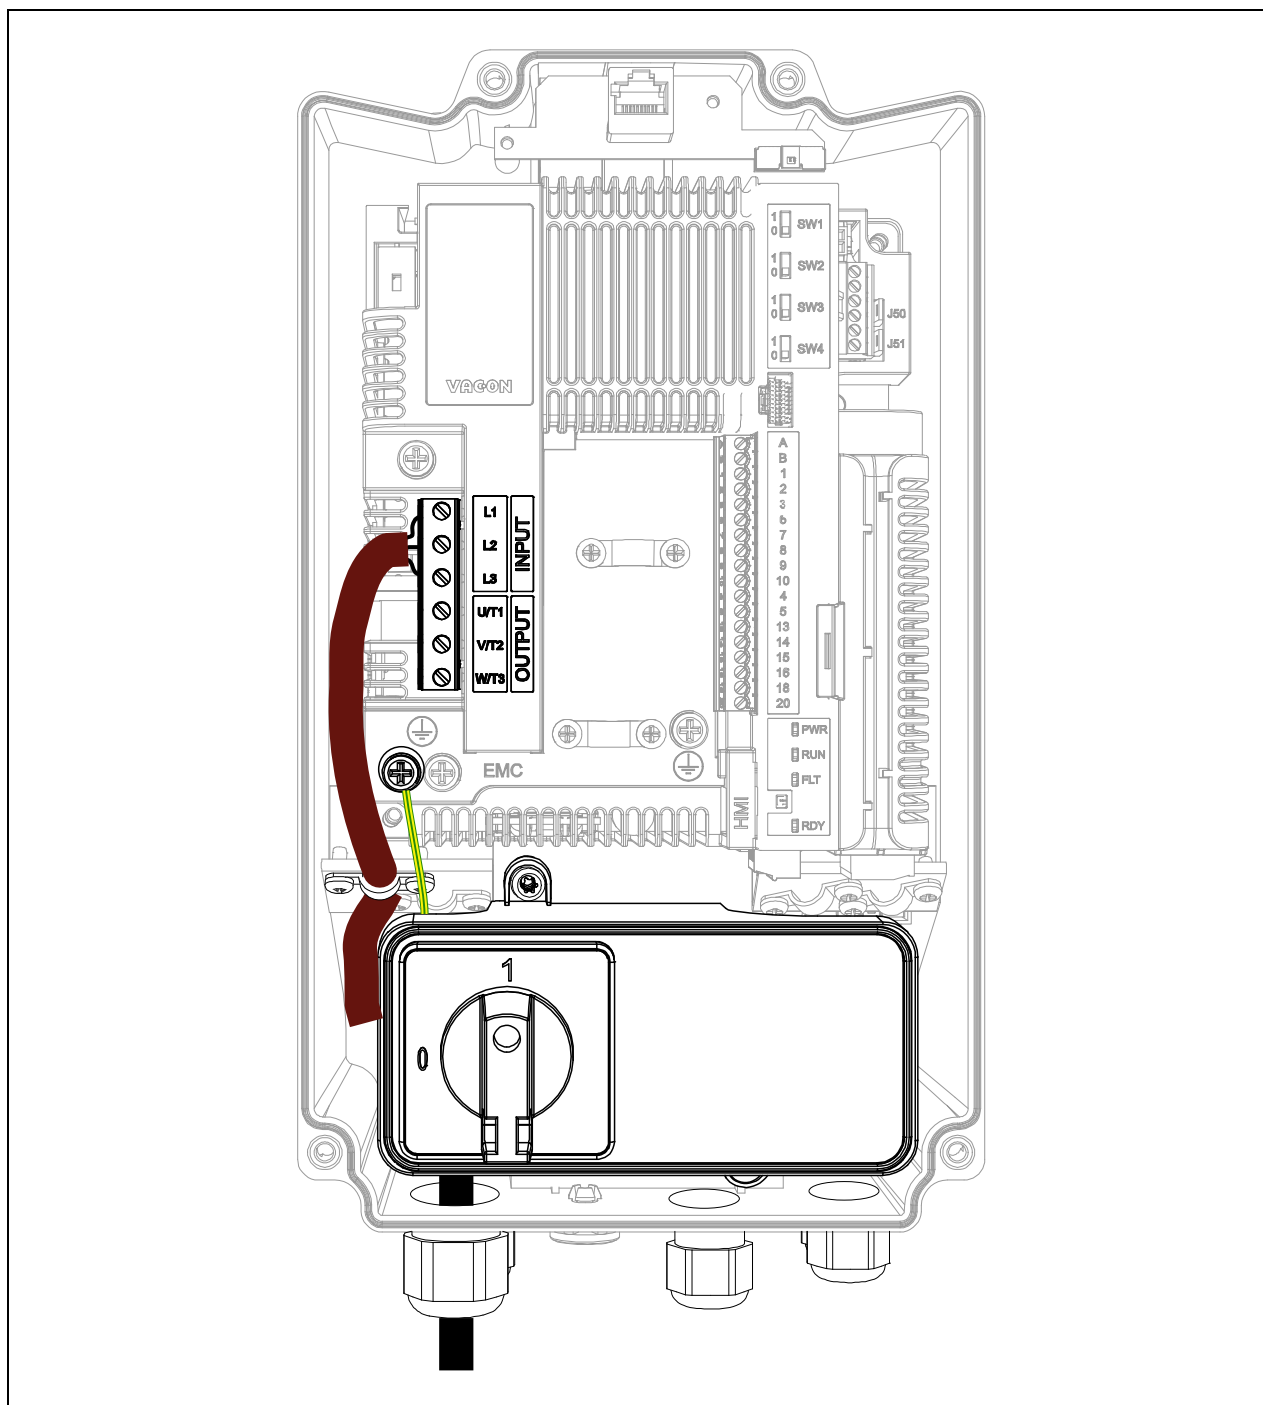

Figure 3. Mains switch and cables connected.
- Connect the GROUND wire to the proper terminal (see the yellow-green cable on Figure 3).